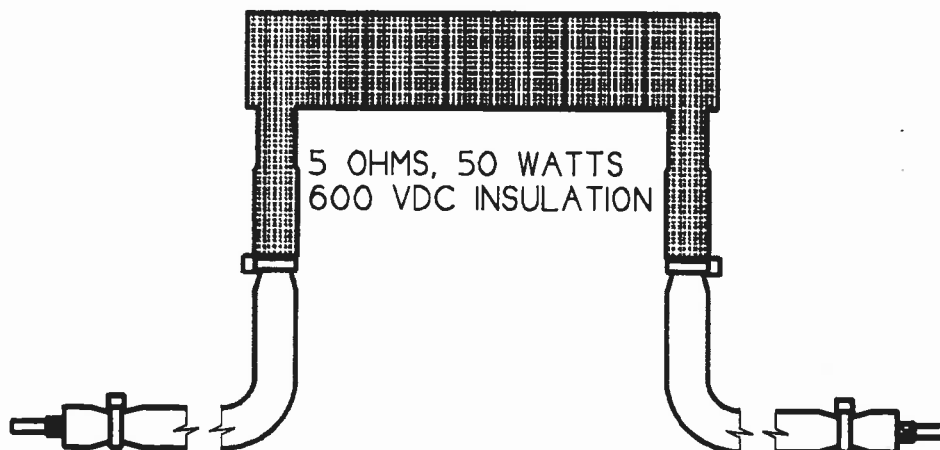

Figure 5 - Capacitor Discharge Bleeder Resistor
A bleeder resistor consists of a power resistor with leads connected to each end with clips on the ends of the leads, refer to Figure 5, "Capacitor Discharge Bleeder Resistor". All connections must be hard wired (soldered). Conductors should be approximately three (3) inches in length. Entire resistor body and soldered connections to resistor must be encapsulated with 600 VDC rated "heat shrink" insulation.